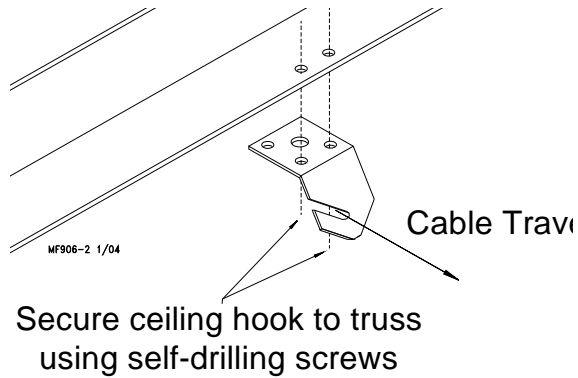

**Figure 13. Screw Hook Installation**
The openings of the screw hooks must be pointed away from the direction of travel when the Power Winch raises the feeder line. **See Figure 13.**
Refer to **page 14 Figure 13**.
2. Thread the end of the 3/32" or 1/8" cable through the pulley toward the winch. Clamp this end to the 3/16" winch cable about 6" [150 mm] from the last pulley, using a 3/16" cable clamp. See applicable figure; **Figure 13 or 19**.